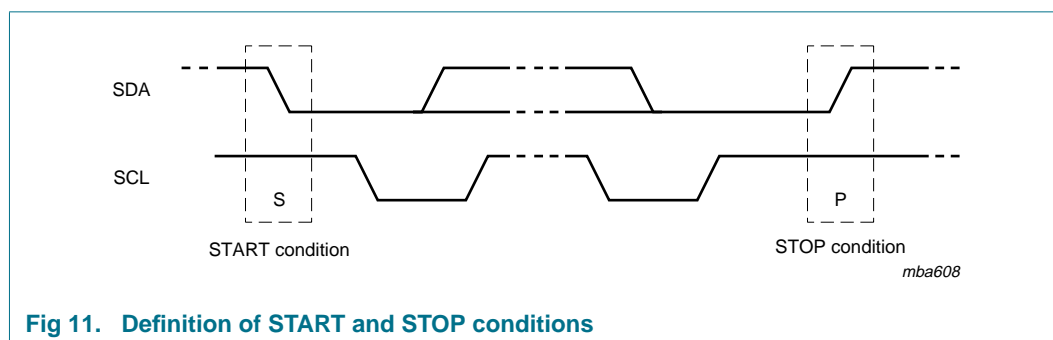

Fig 11. Definition of START and STOP conditions
Both data and clock lines remain HIGH when the bus is not busy. A HIGH-to-LOW transition of the data line, while the clock is HIGH is defined as the START condition (S). A LOW-to-HIGH transition of the data line while the clock is HIGH is defined as the STOP condition (P) (see Figure 11).